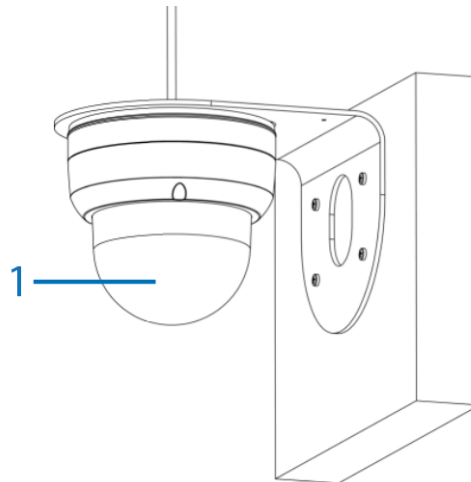

Figure 9
- F. Hold the camera dome (1) (Figure 9) up to the camera base and align the three holes on the dome with the three holes on the camera base, insert the three dome screws into the three holes and securely attach the dome to the camera base.